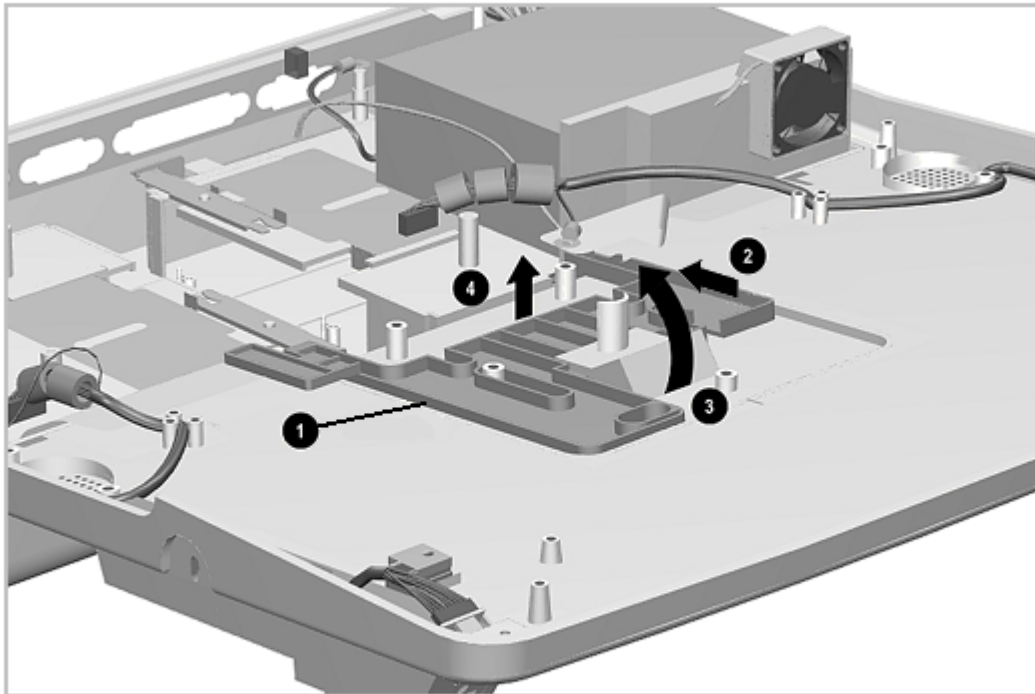

Figure 7-37. Removing the Puller Plate Assembly
7. To remove the puller plate assembly [1], see Figure 7-37 and complete the following steps:
To install the puller plate assembly, press the docking aid [3] through the opening and slide the puller plate [1] into place (Figure 7-37).